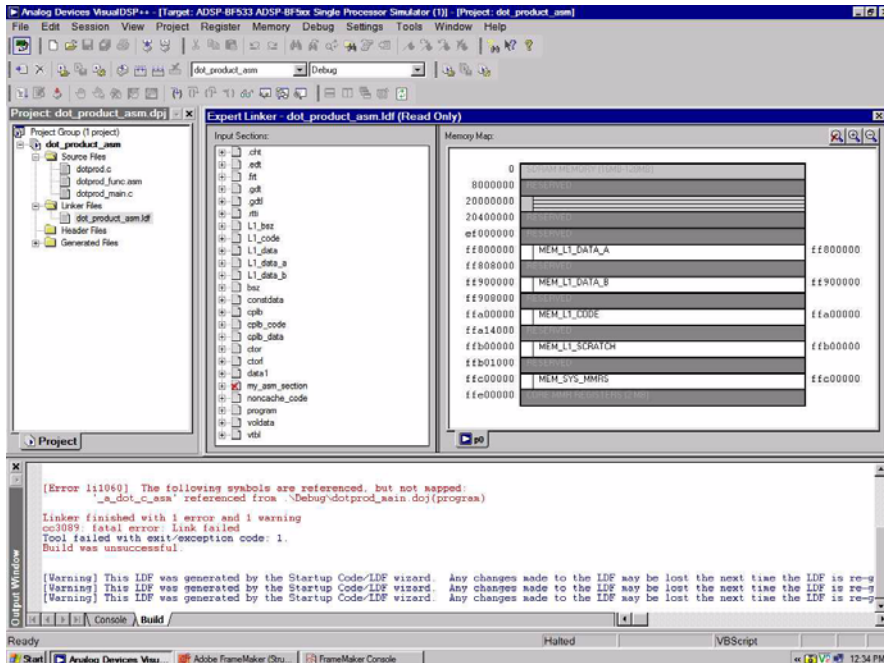

Figure 2-18. Expert Linker Window
5. In the **Project** window, double-click the `dot_prod_asm.ldf` file. The **Expert Linker** window (Figure 2-18) opens with a graphical representation of your file.
6. Resize the window to expand the view and change the view mode. To display the tree view shown in Figure 2-18, right-click in the right pane, choose **View Mode**, and then choose **Memory Map Tree**.